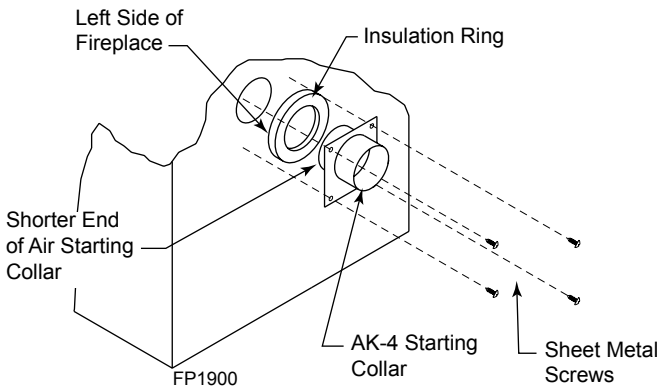

Figure 64 - Attach Outside Air Starting Collar and Insulation Ring to Left Side of Fireplace
3. Place the starting collar (4") into the hole on the side of fireplace. Fasten it in place with the four sheet metal screws provided. *Figures 64 and 65*